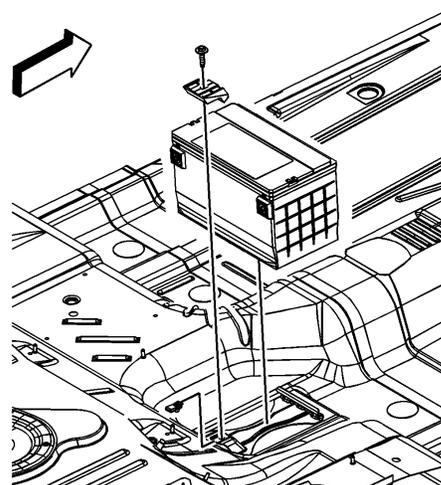

Fig. 5 Battery removal
11. Remove battery hold down retainer bolt and retainer, Fig. 5.
1. Install battery to vehicle, Fig. 5.